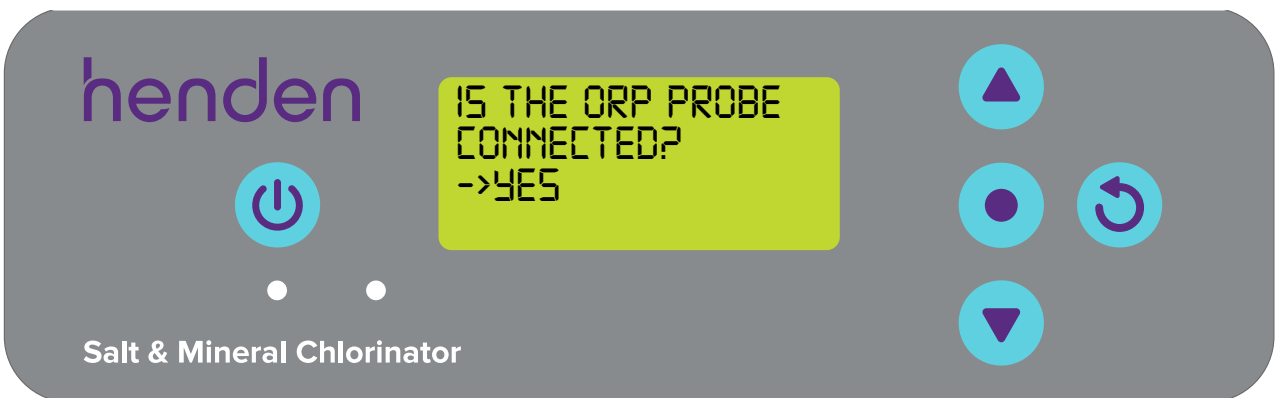

Figure 8.49
- Press the  **menu/setting select** button. The next screen will ask "is the ORP probe connected?" (Refer Figure 8.49)